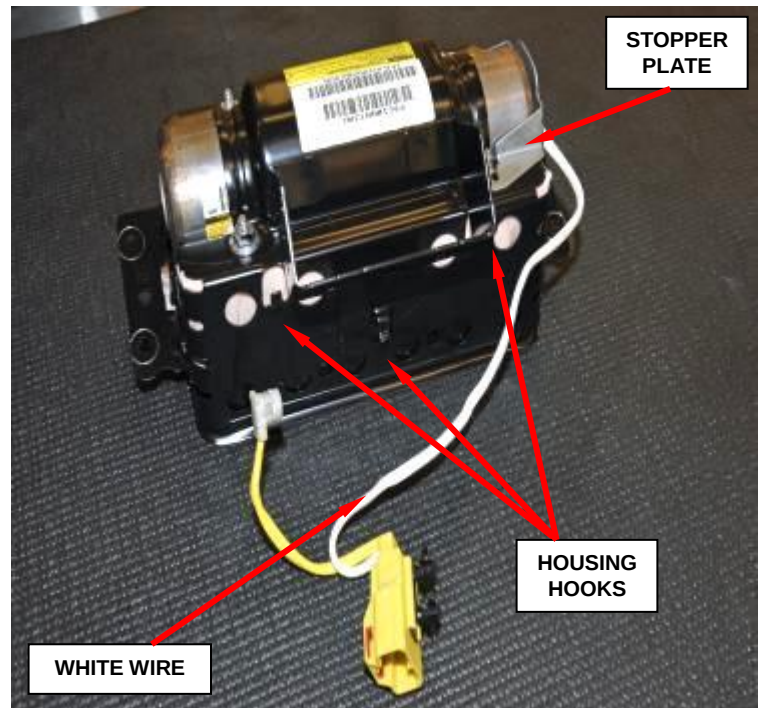

Figure 97 – White Wire Harness
34. Remove and save the instrument panel side support bolts (Figure 97).
35. Remove and save the bolts that secure the bottom of the instrument panel (Figure 97).